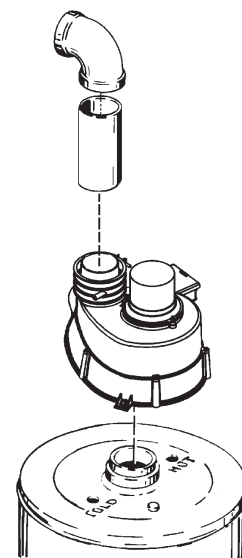

FIGURE 15. BLOWER ASSEMBLY
For your convenience instructions on proper installation through a sidewall are provided in Figure 15 and the numbered points below:
1. Layout the total vent system to use a minimum of vent pipe and elbows. Take into consideration that an elbow will be necessary to make the first vent pipe connection to the power venter outlet, see Figure 15.
2. This water heater is capable of venting the flue gases the equivalent of thirty (30) feet of 3 inch pipe or one-hundred (100) feet of 4 inch pipe as listed in Table 1.
3. The blower discharge adapter is made to accept only straight sections of 3" pipe. To start a minimum of 2 inches of 3" pipe must be attached to the blower discharge, see Figure 15.
5. The blower discharge boot is made to accept only straight sections of 3" pipe. To start off with an elbow, a short section of the furnished pipe, a minimum of 2 inches, must be cut and glued into the end of the elbow that will mount on the discharge boot, see Figure 15.